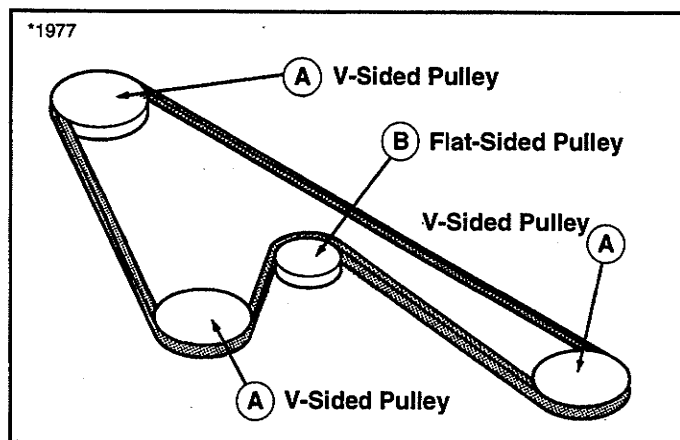

**Figure 38. Mower Deck**
4. Loosen nut and lockwasher securing bracket belt stop (C, figure 38) on idler pulley. Remove three capscrews securing left-hand arbor cover (D, figure 38).
8. Install spring (C, figure 38) to slot in mower deck. Tighten capscrew securing idler pulley.